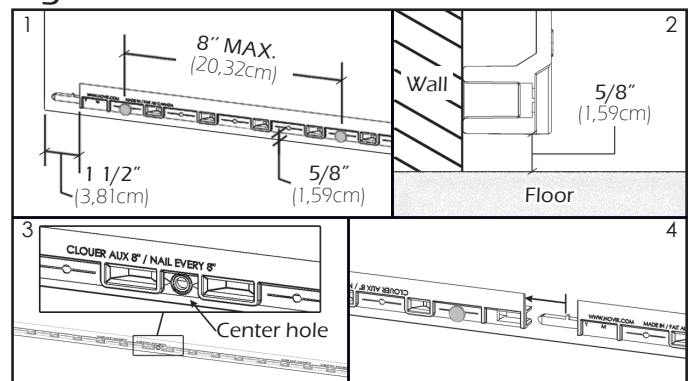

Figure A.1
- Pro Series Uniseral Starter Strip (Figure A.1):